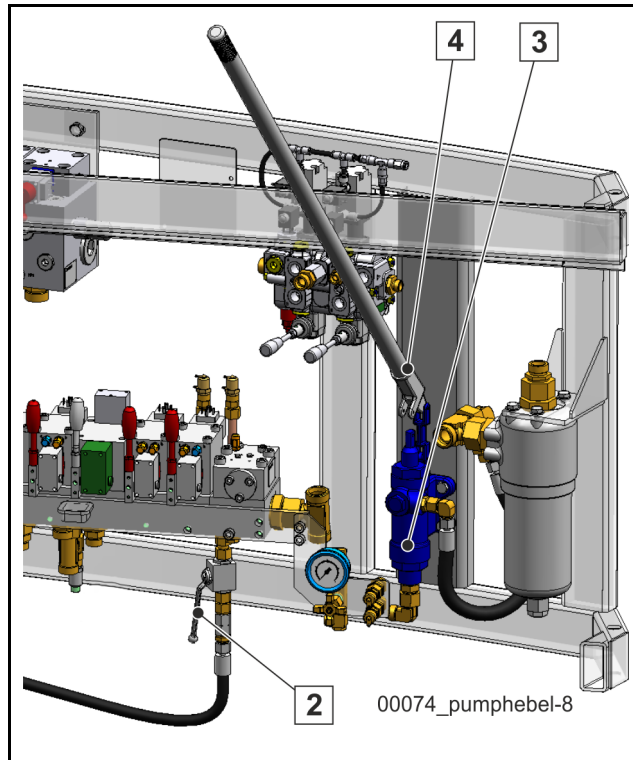

Fig. 233 Ball valve (2), emergency hand pump (3) and pump lever (4) in the control cabinet
The emergency hand pump (3) is preferably located near the placing boom control block (**Fig. 233**).
2. Close the emergency operation ball valve (2) (**Fig. 233**) on the underside of the boom control block in the control cabinet, as otherwise the pumped oil will escape to the tank via a nozzle built into the control block.
3. Place the pump lever (4) onto the emergency hand pump (3) (**Fig. 233**).